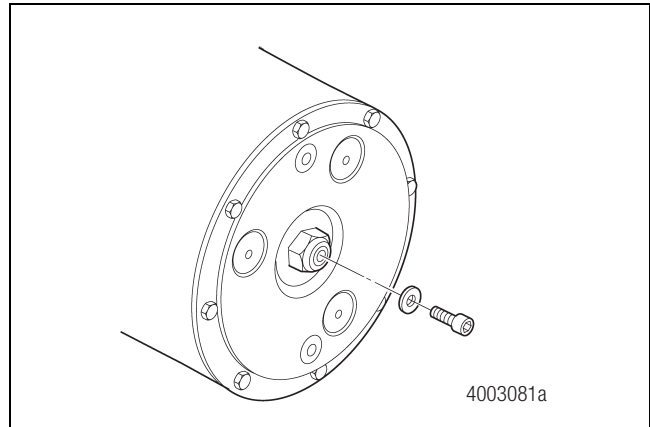

Figure 3.54
11. Remove the oil level cap screw and copper washer located in the center of the thrust screw. Do not remove the thrust screw and locknut, which will change the gap. Figure 3.54.
13. Install the copper washer and oil level cap screw. Tighten them to 8 lb-ft (11 N•m). Figure 3.54.